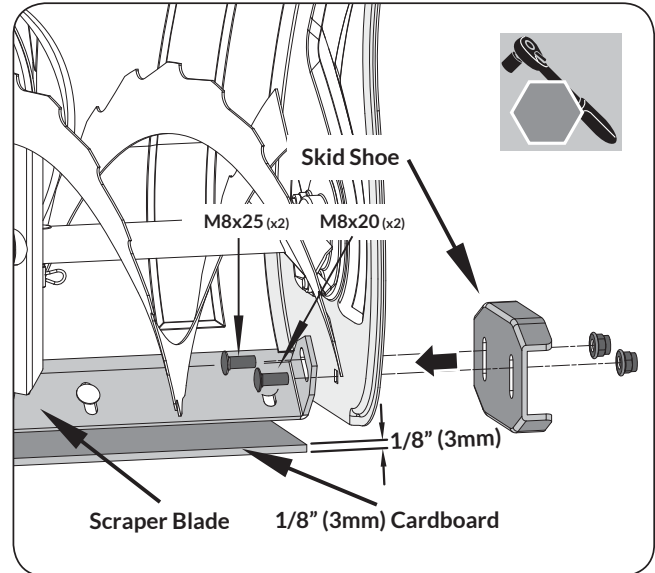

Figure 9
3. Attach the skid shoes to the sides of auger housing with the bolts and nuts. The shorter M8X20 bolts should be in the front holes while the longer M8X25 bolts in the rear holes. Move the skid shoes down as far as possible. Be sure both skid shoes are adjusted evenly. Tighten securely. (See **Figure 9**)